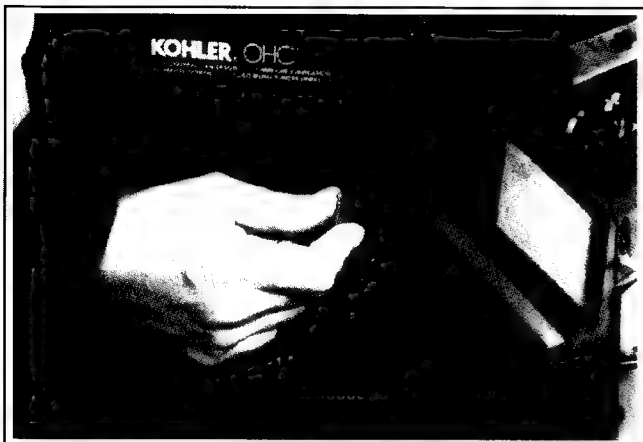

Figure 9-2. Turn Fuel Off.
1. Turn fuel shut-off valve to **off** position. Vertical position is off. See Figure 9-2.